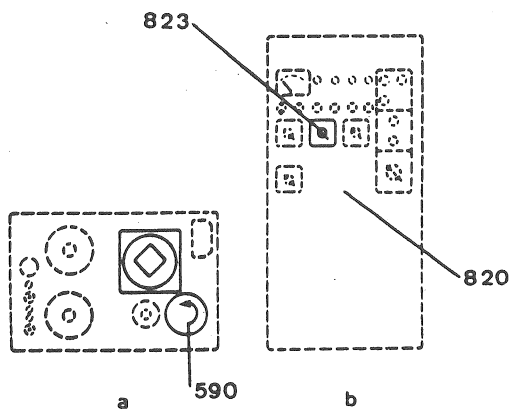
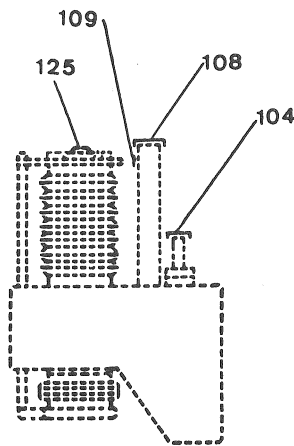

Fig 25
Fig 26
4. Start up the pump (590) (fig. 25 a) of the hydraulic circuit by means of the switch (823) (fig. 25 b) located on the control panel (820) of the generator, make sure that the direction of rotation of the pump is correct and then let the oil circulate for at least two hours in order to filter out any impurities it may contain.
5. Having let the oil circulate for a period of two hours, switch off the hydraulic pump (590) by means of the switch (823).
6. Remove the adhesive tapes covering the openings (108-109-125) and also the rubber guard placed as protection over the nozzle (104) (fig. 26).